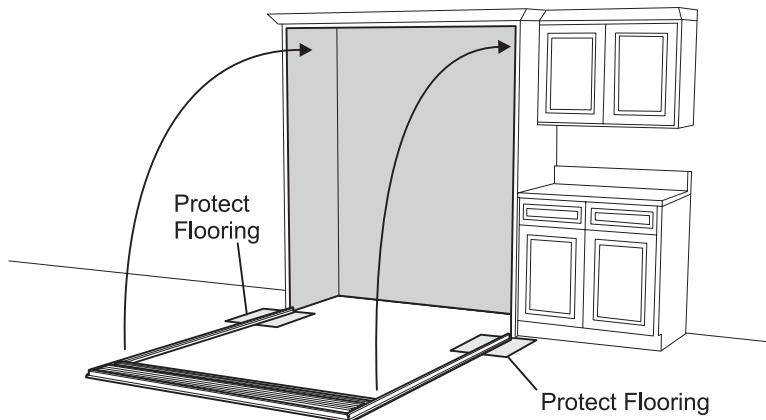

Figure 6
- First, place protective covering where side trim will contact the floor near rough opening. Then, stand up the grille and frame assembly and center in rough opening. See Figure 6. You may need to use several pieces of tape at the top corners and top center to temporarily hold the assembly in place.